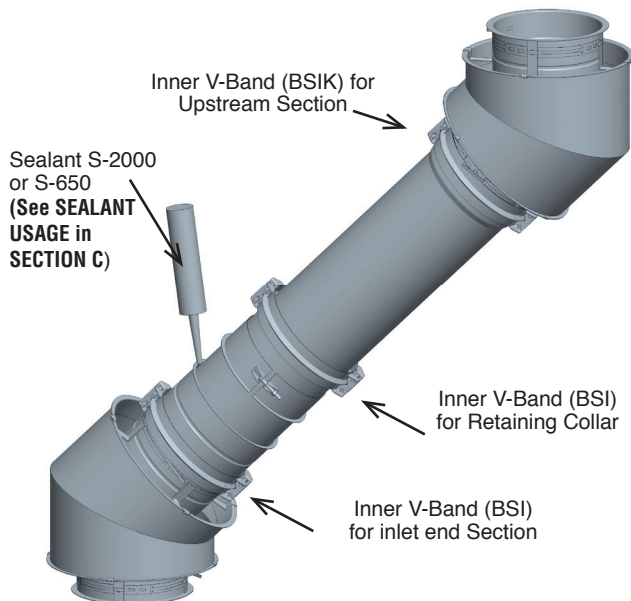

Figure 26 - Step 7-9 - Secure the Double Flanged Sleeve and seal the Retaining Flange Collar
9. Apply thin layer of sealant inside the retaining collar, and also a continuous bead of sealant at the collar overlap seam. See **Figure 26**.